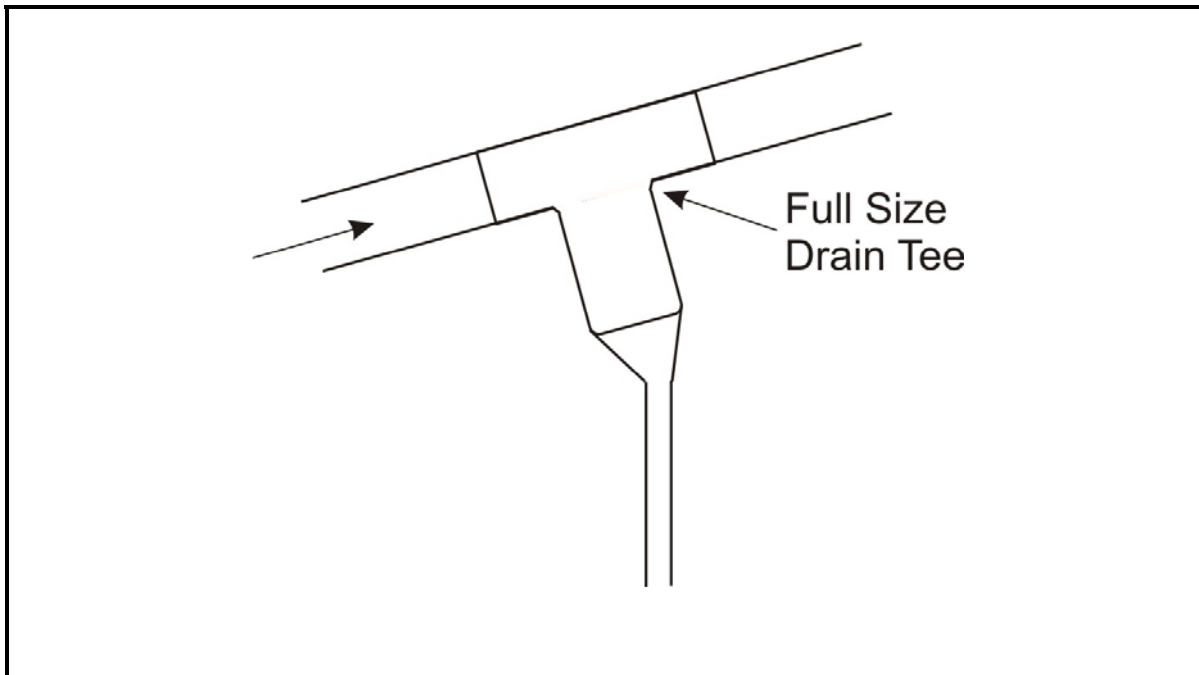

Figure 1. Drain Tee
4. Consult the following pages for step by step distributor installation starting with Figure 1.